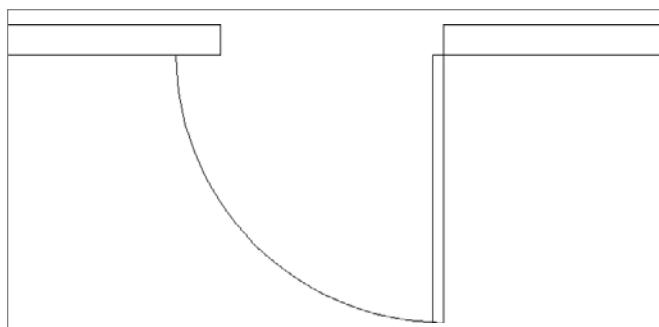

FIGURE 4.58 A close-up view of the bathroom door
2. Click the Zoom Window button found on the navigation bar to zoom in to the interior door opening (see Figure 4.58).